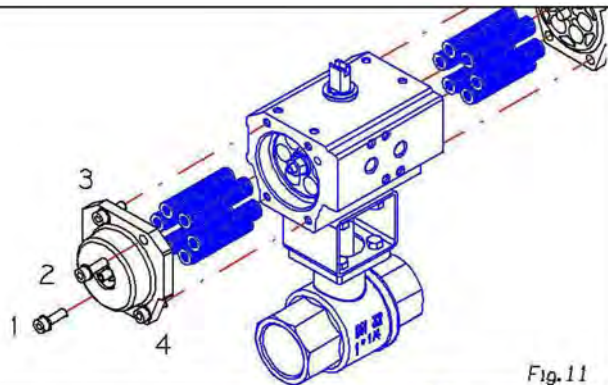

Fig. 11
1 Take off covers loosening screws as per indicated numeration; pull out springs, if any, from pistons seats, Fig. 11.
- Re-assembly springs, if any, and covers tightening screws a little at a time following the numeration, Fig. 11.